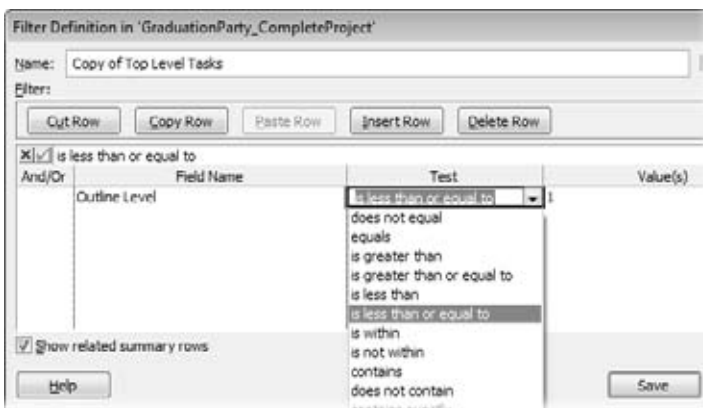

Figure 23-24:
2. Click the Test cell down arrow, and then choose the type of test you want to apply, as illustrated in Figure 23-24. For the critical filter, choose the “equals” test. Press Enter to move to the Value(s) cell in the same row.
If the field you’re testing is a Yes/No field, you can type *Yes* or *No* or choose the values from the drop-down list. In Figure 23-24, the test checks to see if the outline level is less than or equal to 1.